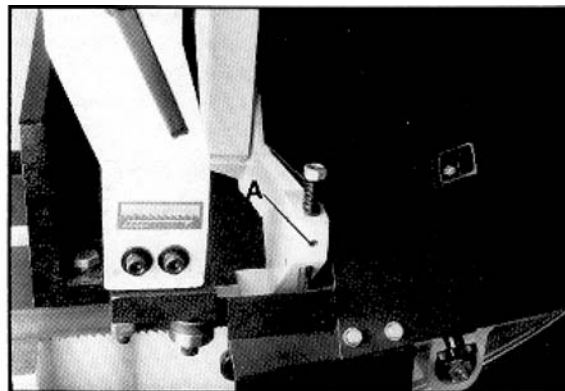

Figure 6
4. Loosen set screw (A, Figure 6) and lower the blade cleaning brush.